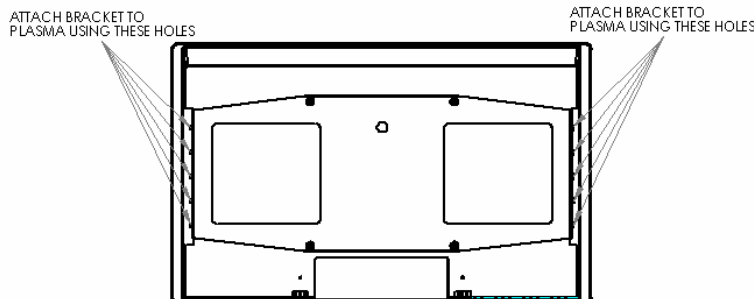

Figure 4
2. Align hole pattern on brackets with pattern on sides of Plasma Display (see Figure 4). Attach bracket using the M5 Phillips hex head screws.